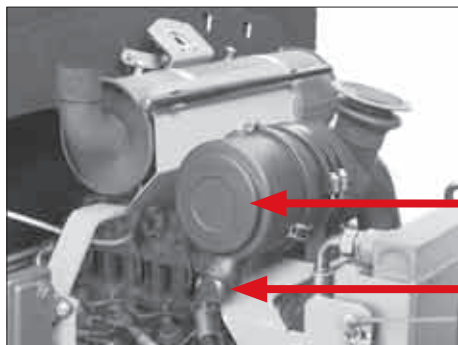

Fig. 82
Check if the outlet slot on the dust valve Item 1 (Fig. 82) is clear. Remove dust accumulation by pinching the valve.
1. Remove the fasteners on the cover Item 2 (Fig. 82) and take off the cover.
1. Remove the three fasteners on the cover Item 2 (Fig. 82).
2. Remove the cover Item 2 (Fig. 82):